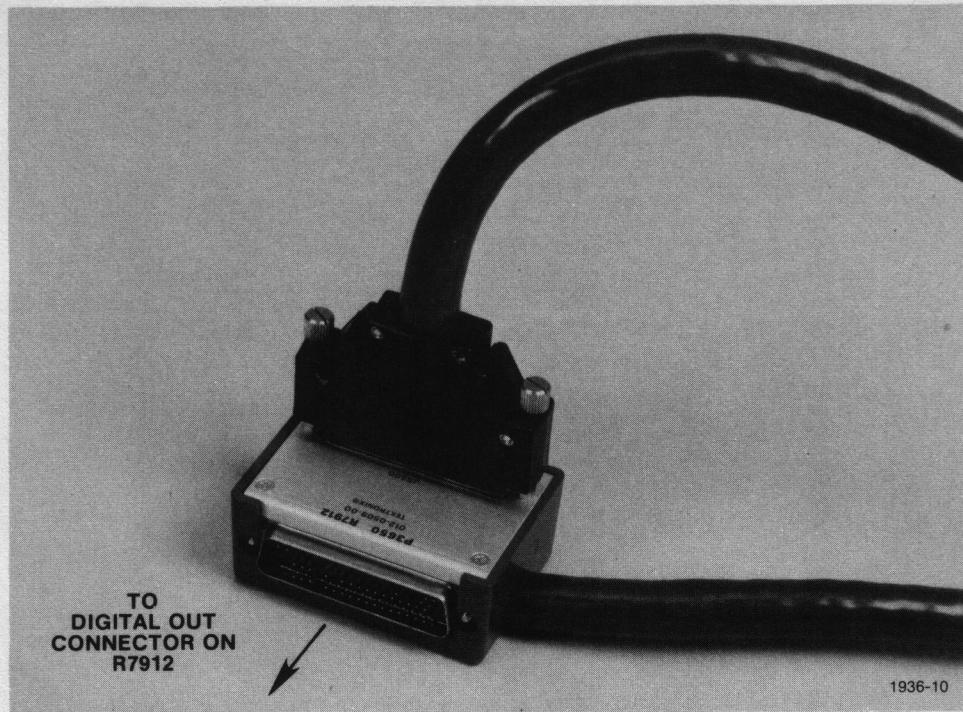

Fig. 2-3. R7912 "T" connector.
4. The 4-foot CP Bus cable (012-0509-01) has a large T-connector at one end, as above, and a 37-pin male plug at the other. Connect the 37-pin plug to the jack in the T-connector body on the cable you connected in step 3. See Fig. 2-3.